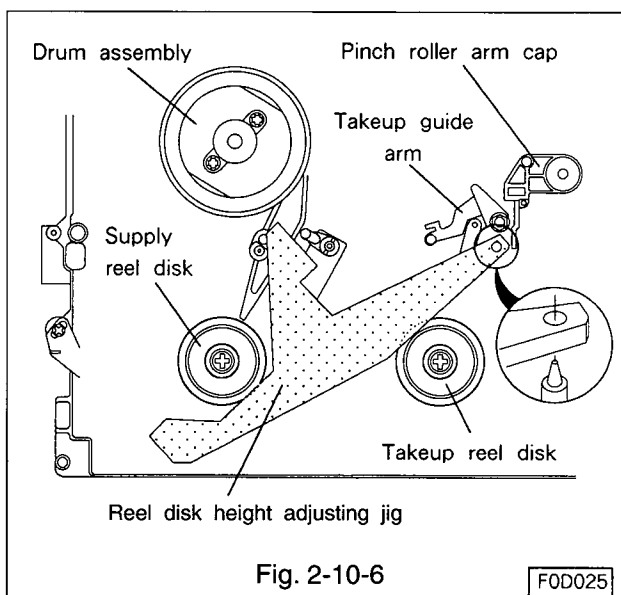
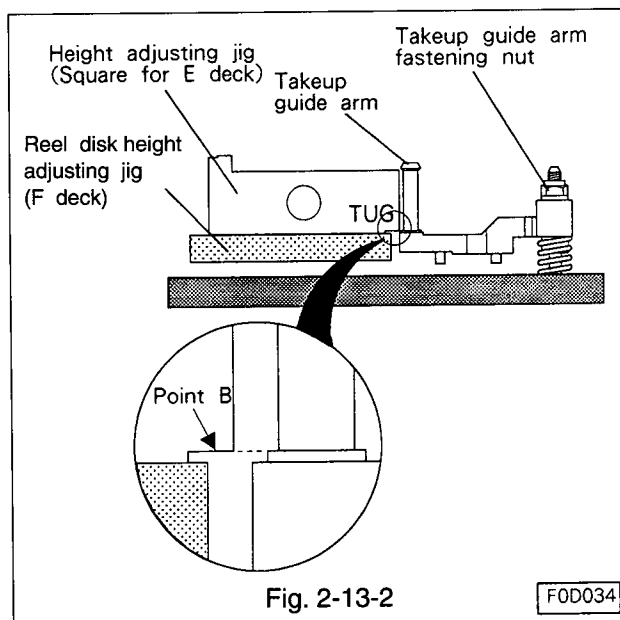

Fig. 2-10-6
Fig. 2-13-2
- J. Place the reel disk height adjusting jig (Part Number 859C342O20) in the reference position on the main plate. (Refer to Fig. 2-10-6.)
- E. Place the reel disk height adjusting jig(Part Number 859C342O20) in the reference position on the main plate. (Refer to Fig. 2-10-6.)
- Place the reel disk height adjusting jig(for the F deck) in the reference position on the main plate(Refer to Fig. 2-10-6). Insure the takeup guide arm is level with point B of the height adjusting jig(for the E deck). (Refer to Fig. 2-13-2.)
to Fig. 2-13-2.)